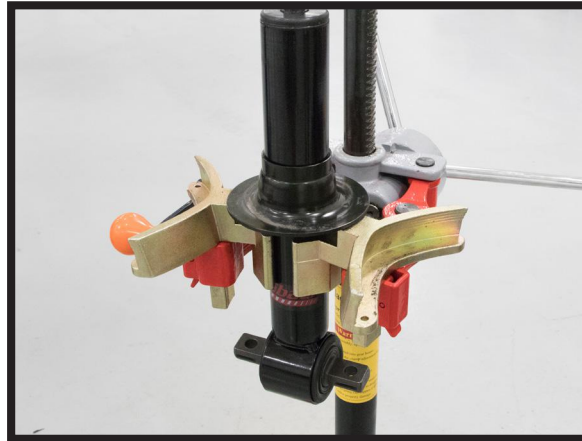

FIGURE 25
2. CAREFULLY INSTALL THE SPRING SEAT ONTO THE STRUT. (FIGURE 25)